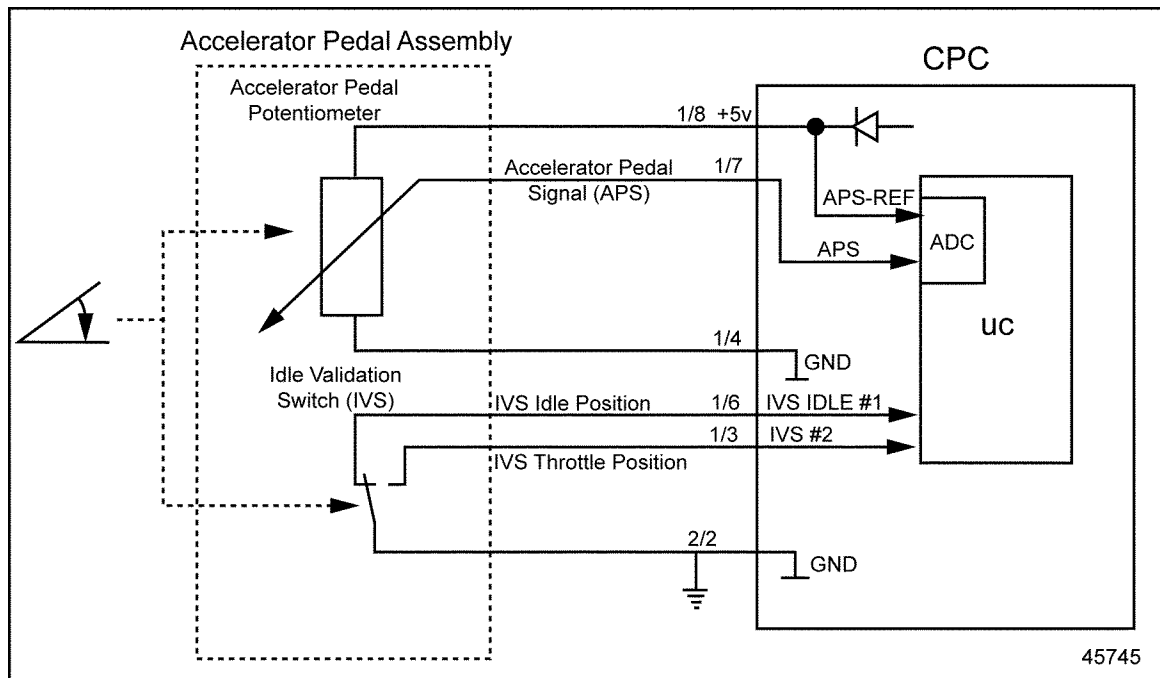

Figure 6-1 Accelerator Pedal Assembly Installation
1. Disconnect the Accelerator Pedal (AP).
3. Measure the voltage between pins 1 and 3 of the AP harness connector. See Figure 6-1.